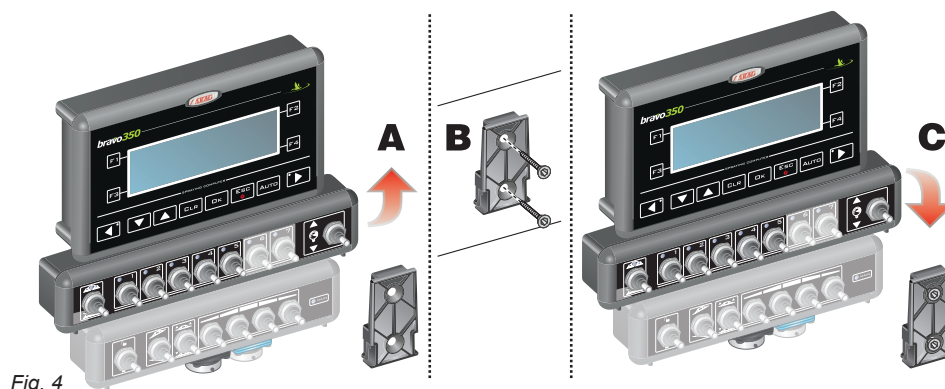

Fig. 4
The monitor must be mounted after having fixed the bracket at the desired location (the previous paragraph shows the bracket drilling template). The bracket must be slid out of the monitor seat (A, Fig. 4) and fixed using the supplied screws (B).